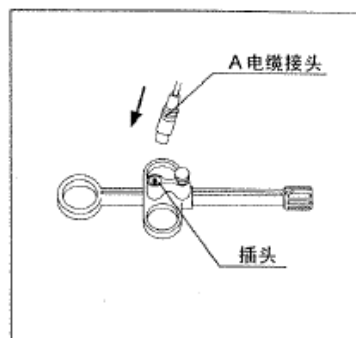

Fig3.1
1. Insert cable connector A into the plug until you hear the snap sound (see fig. 3.1);